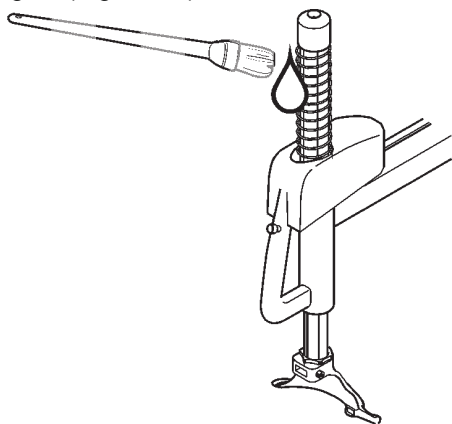

Fig. 6.0-1
**A.** Periodically clean the vertical hexagonal rod with liquid detergent. After this immediately lubricate with a light lubricating oil (Fig. 6.0-1).